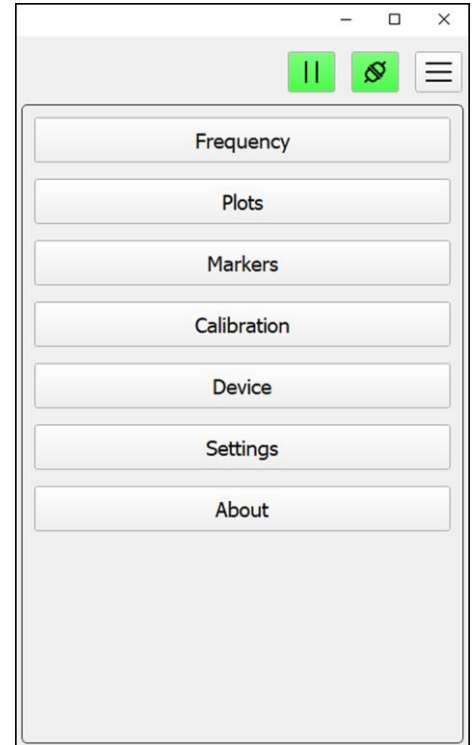

Figure 5.1 - The main menu
5.1.1. The main menu is located on the right side of the application interface (Figure 5.1).